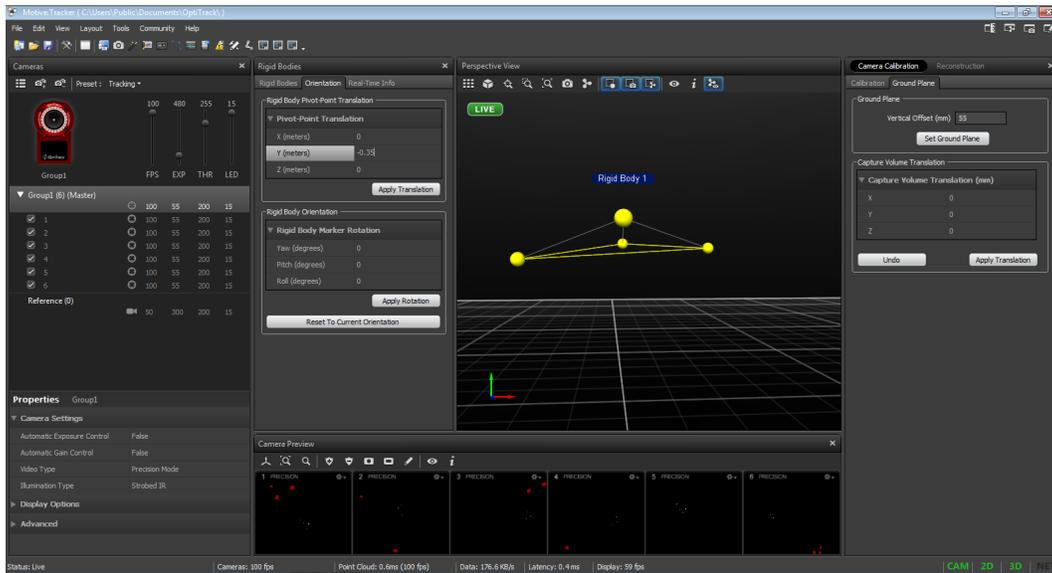
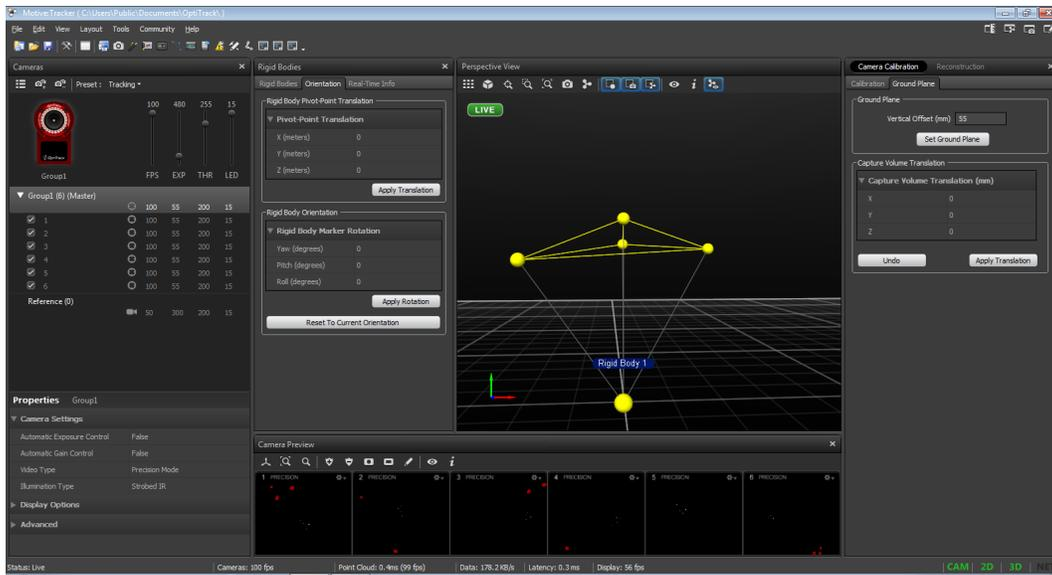

Figure 6.19: Apply a vertical translation to the QBall 2 rigid body pivot point
Figure 6.20: QBall 2 rigid body pivot point moved to the center
8. Select the Orientation tab in the *Rigid Body* view pane as shown in Figure 6.19. Under *Translation*, set the Y translation to  $-0.35$  m (negative 35 centimeters from the top point is the center of the QBall 2), as shown in Figure 6.19. Click Apply Translation. The pivot point will move from the top of the cage to the center, as shown in Figure 6.20.